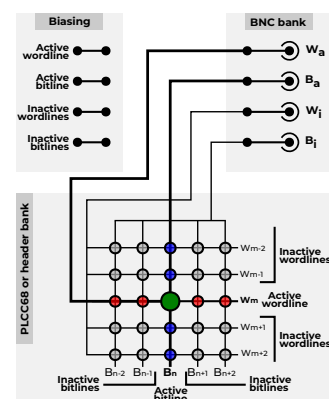

Fig. 7 - BNC-to-Local mode
3. **Live: BNC to Local** – in this operating regime the instrument's biasing circuitry is disabled and all voltage/current biasing to target devices is provided through the BNC terminals (Figure 7). The Arc platform only performs routing, i.e. directs bias voltages/currents from the BNCs to the selected device (in PLCC68 package or via header banks).